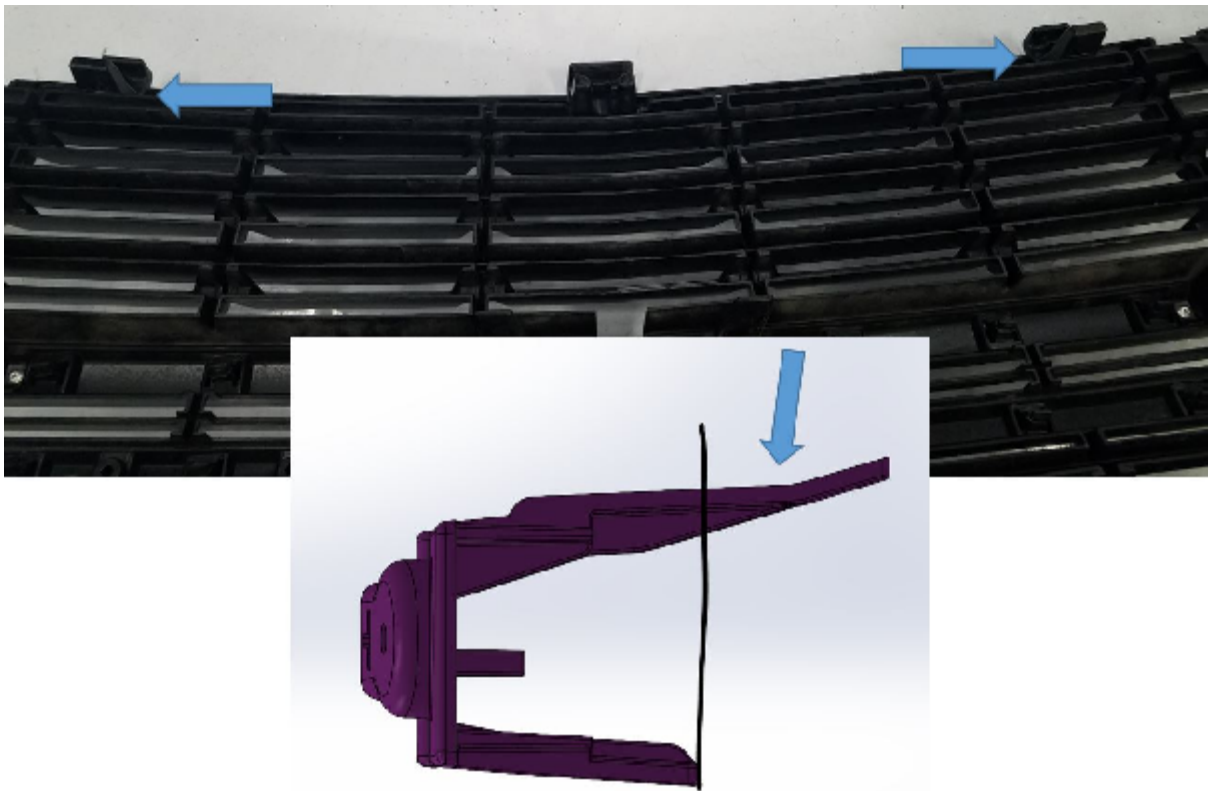

Fig. 6
6. Upper grill trimming, on inside grill need to trim two outer grill clips (blue arrow, Fig. 6), *grill clips may require to trim top half (long flange) to match the length of the lower flange (trim blue arrow side)